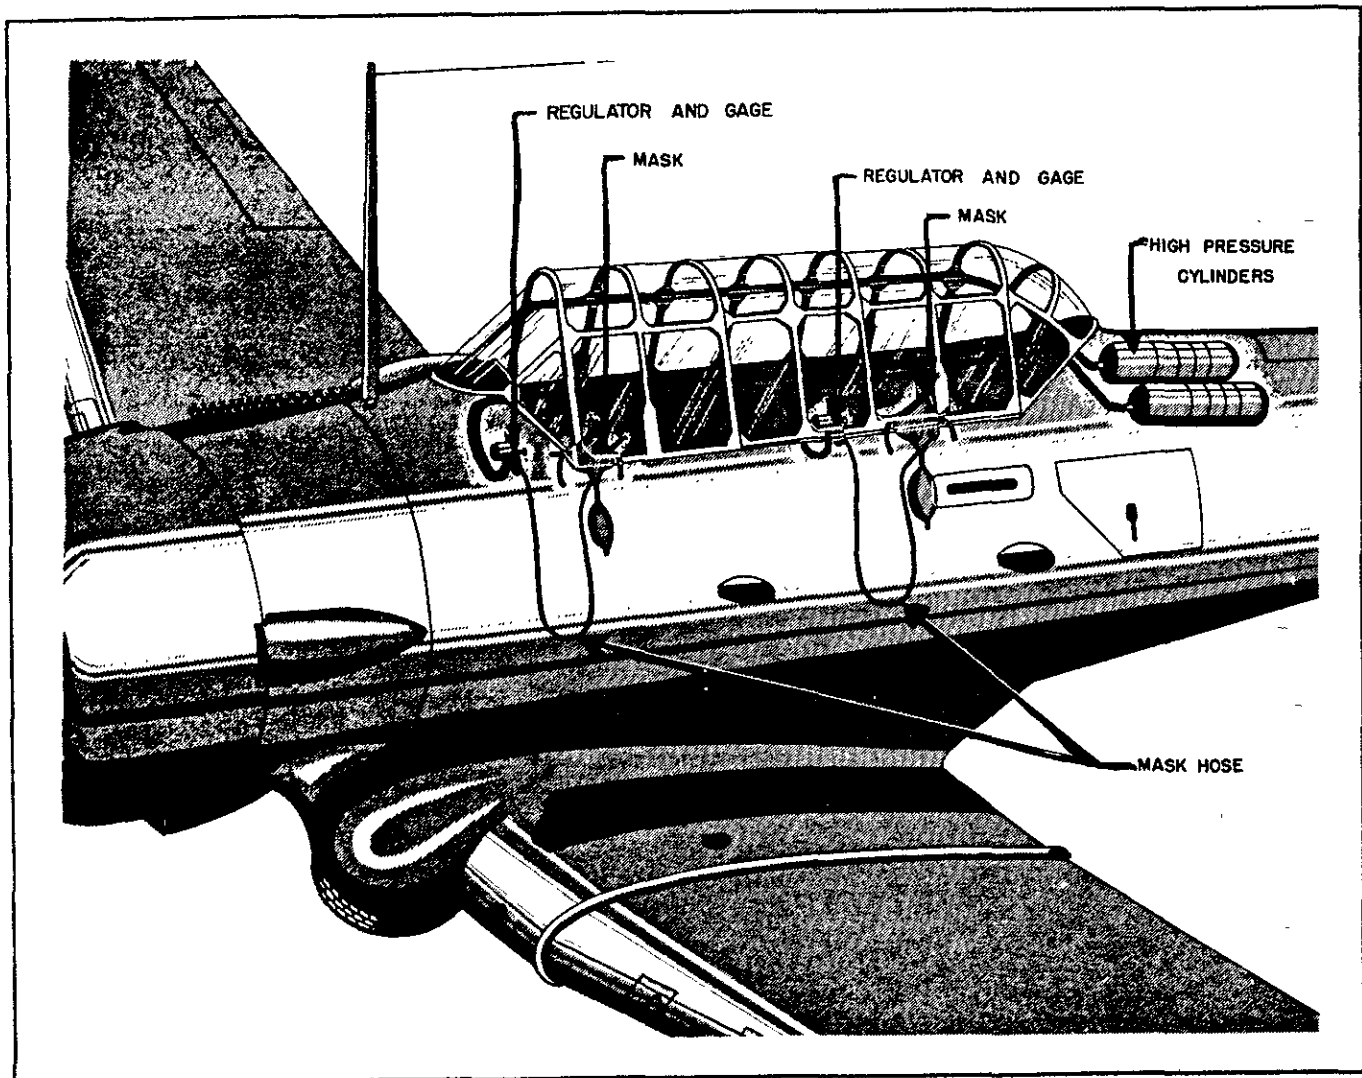

Figure 41 — High Pressure Oxygen System
(1) DESCRIPTION. (See figure 41.)—The high-pressure oxygen system consists of two type B-1 cylinders, two type A-8 regulators (with flow indicator and pressure gage), and the necessary tubing and fittings. The regulator units are installed on the right side of each cockpit. The front cockpit regulator is supplied oxygen by the right cylinder and the rear regulator by the left cylinder. Normal full pressure of each cylinder is 1800 lb/sq in.
(2) OPERATION.—Turning the regulator control knob is the only manual operation required in high-pressure oxygen systems. Quantity of oxygen supplied is determined by the position of this control. Open the control knob until the flow indicator reading corresponds with the altitude at which the airplane is flying.
(3) CONSUMPTION CHART.—The following table indicates the approximate supply of oxygen in